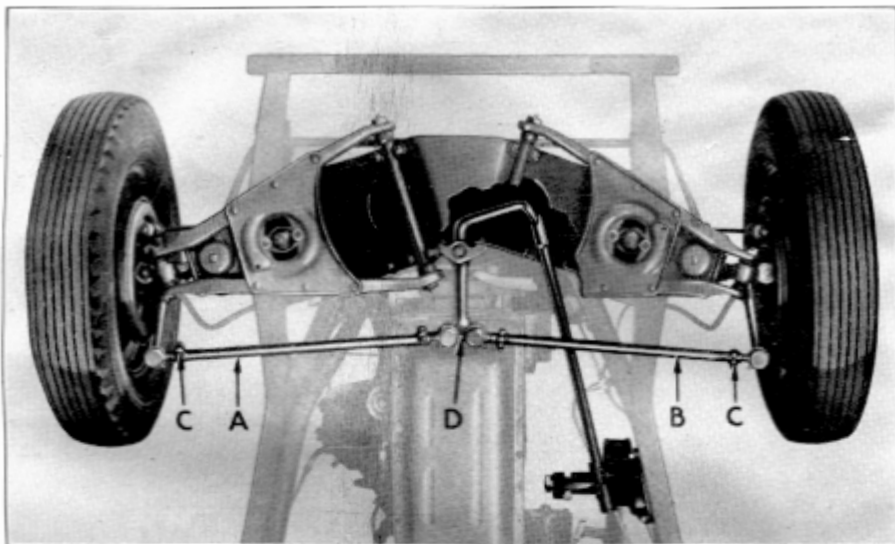

Figure 35
The wheel toe-in is controlled by individual adjustment of the two equal length tie rods (A and B), Figure 35. The proper toe-in is from zero to $\frac{1}{16}''$ and is made by loosening the tie rod end clamp bolts (C) and rotating the tie rods. Turning the tie rods in direction of forward wheel rotation increases toe-in and turning in opposite direction decreases toe-in. When making this adjustment be sure the center steering arm (D), which is the connecting member between the tie rods and drag link, is parallel to the center line of the car. Tighten clamp bolts securely after completing the adjustment.
The drag link, Figure 35, is of the adjustable bearing type, with shim packs located to the front and rear of the pitman arm ball. This design makes it possible to obtain proper relationship of the front wheel position to the steering gear high point.